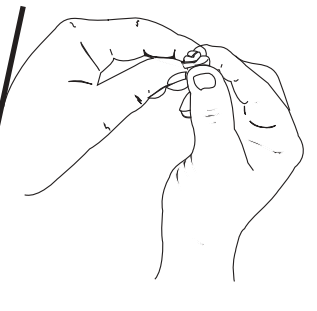

FIGURE 37
5. Squeeze the filter to spread and remove excess oil, Figure 37.